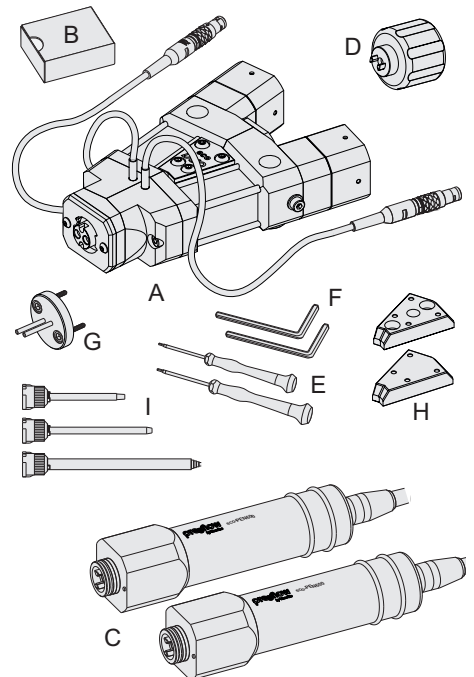

Fig. 1
- Fig. 1 Legend number, reference to a figure